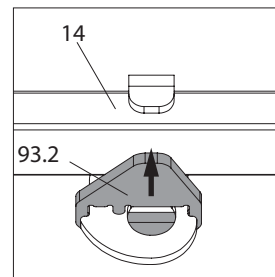

Fig. A11.06d
2. Lift the pressure plate (93.2) and push it towards the horizontal ledger (14). (Fig. A11.06d – A11.06f)